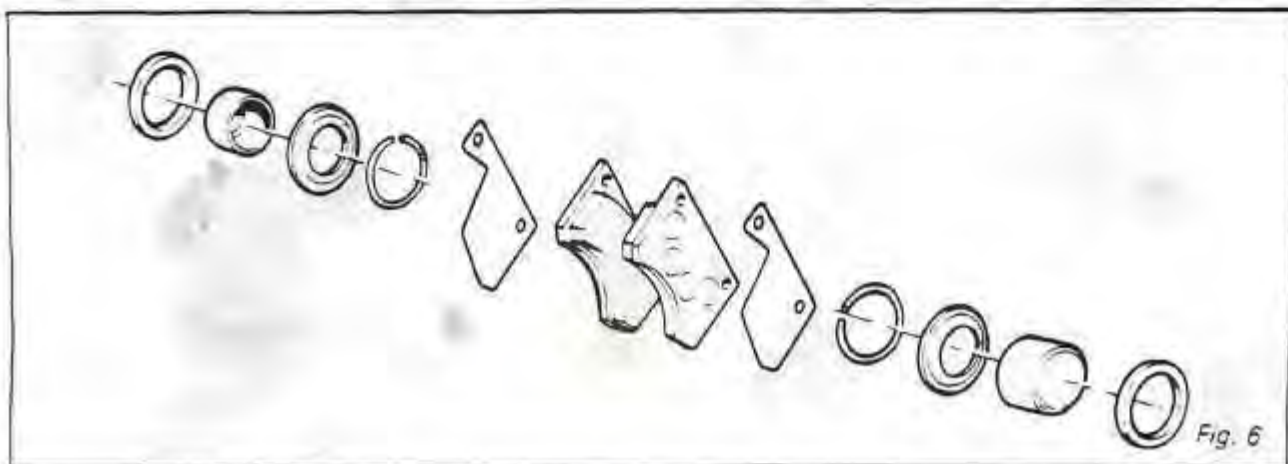

Fig. 6
2. Remove caliper piston dust cover retaining ring and remove piston dust covers. (Fig. 6)